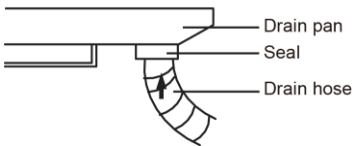

Fig. 4.21
- (1). For determining the position of the drain hose, perform the following procedures.
- (2). Insert the drain pipe to the drain outlet of the unit and then tighten the clamp securely with tape. (Fig. 4.21)
- (3). Connect the extension drain pipe to the drain pipe and then tighten the clamp with tape.